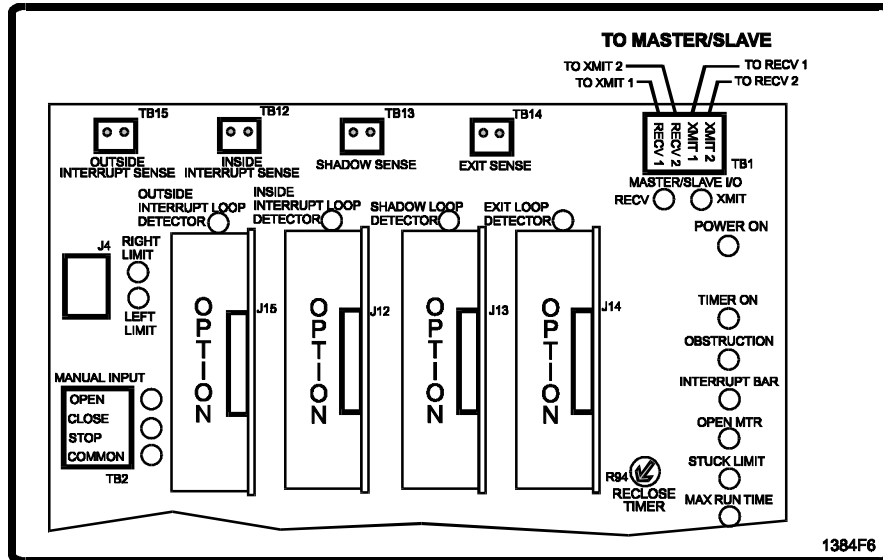

Figure 10. Master Slave Connection and Switch S1 Location.
4. Connect the Master/Slave interconnect cable: connect the Receive inputs (RECV1, RECV2) on each board to the Transmit inputs (XMIT1, XMIT2) on the other board (see Figure 10).